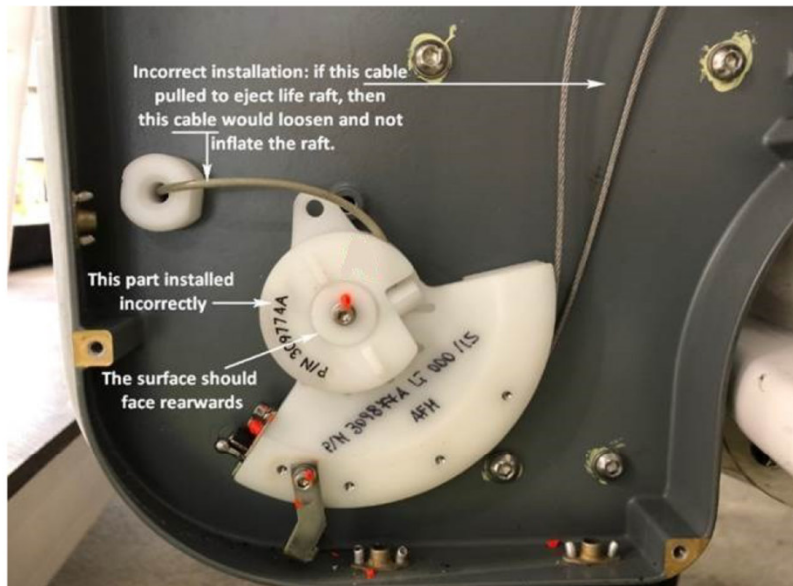

Figure 1 – Incorrect installation on the RIGHT AW189ELS
A case of incorrect installation of the raft actuation system on AW189 Emergency Liferaft System (ELS) has been reported, refer to Figure 1.
- 2 Otherwise, if you see the part number on the upper pulley as, go to step (5).
- (5) In case of incorrect installation detected, refer to Service Bulletin 189-25-010 to replace the components incorrectly installed.
- (6) Remove the Safety Pin P/N G-C10005 from the Lower Pulley P/N 309877A [309771A].
- (7) Re-install the Frontal plate cover P/N 310865B [310864B], using the six screws P/N V-G60006; refer to the applicable Data Module of the Aircraft Maintenance Manual or ASSEMBLY section of the CMM 25-61-16.
- (a) Restore the Safety Pin P/N G-C10005 in Transport or Flight configuration mode, refer to Figure 1.
- (8) If necessary, install the ELS on the helicopter according to applicable Data Module of the Aircraft Maintenance Manual or ASSEMBLY section of the CMM 25-61-16.
- (9) Install the front Fairing by means of screws that hold it on the ELS and helicopter; refer to the applicable Data Module of the Aircraft Maintenance Manual.